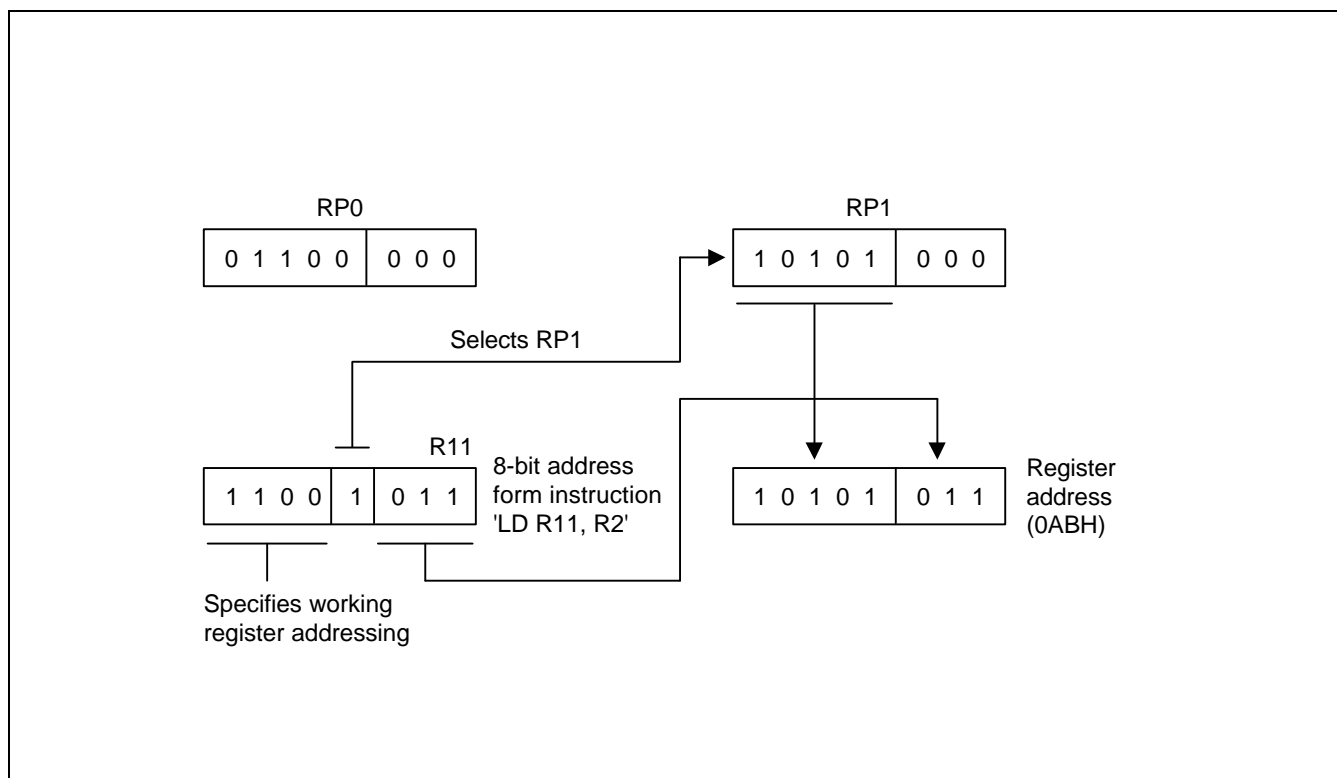

Figure 2-14. 8-Bit Working Register Addressing Example
Figure 2-14 shows an example of 8-bit working register addressing. The four high-order bits of the instruction address (1100B) specify 8-bit working register addressing. Bit 4 ("1") selects RP1 and the five high-order bits in RP1 (10101B) become the five high-order bits of the register address. The three low-order bits of the register address (011) are provided by the three low-order bits of the 8-bit instruction address. The five address bits from RP1 and the three address bits from the instruction are concatenated to form the complete register address, 0ABH (10101011B).